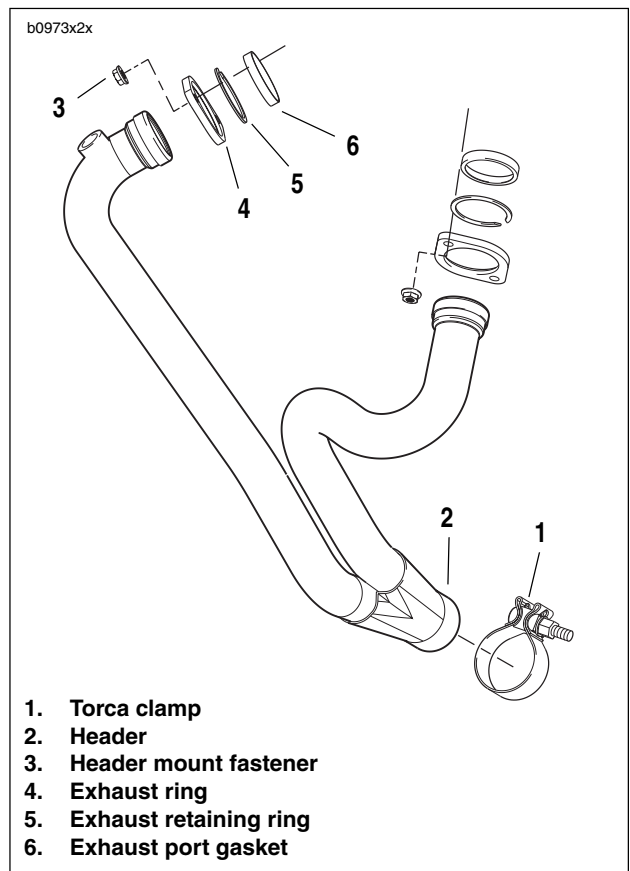

Figure 2-103. Exhaust Header
6. See Figure 2-103. Loosen Torca clamp (1) and remove muffler.
3. See Figure 2-103. Remove exhaust header (2) by removing mounting fasteners (3).
4. Remove exhaust ring (4), retaining ring (5) and port gasket (6).
1. See Figure 2-103. Install exhaust ring (4), retaining ring (5) and **new** port gasket (6).
2. Install exhaust header (2). Tighten mounting fasteners (3) to 72-96 in-lbs (8-11 Nm).
5. See Figure 2-103. Tighten the Torca clamp (1) to 40-45 ft-lbs (54-61 Nm).